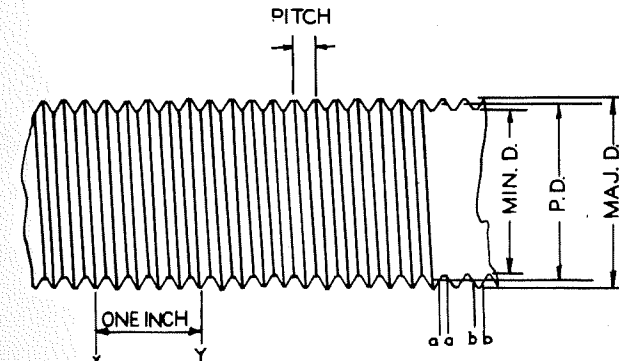

FIG. 135. Thread Cutting Terms. Definitions are given below.
(Refer to Figure 135 below)
**PITCH DIAMETER**—On a straight screw thread, the diameter of an imaginary cylinder, the surface of which would pass through the threads at such points as to make equal the width of the threads and the width of the spaces cut by the surface of the cylinder. In Figure 135 the lines representing the diameter "PD," are located so as to make spaces "aa" and "bb" equal. On a 60°
**PITCH**—The distance from a point on a screw thread to a corresponding point on the next thread, measured parallel to the axis (see Fig. 135).
**THREADS PER INCH**—The number of complete threads in the space of one inch. In Figure 135, the distance between points X and Y represents one inch, and there are five threads per inch.